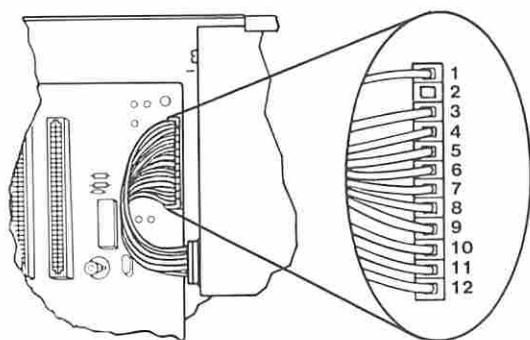

Figure 4. System Board Power Connectors
- Check for a voltage of 2.4 to 5.2 Vdc between pins 1 and 5 (ground) at the system board power connector (Figure 4).